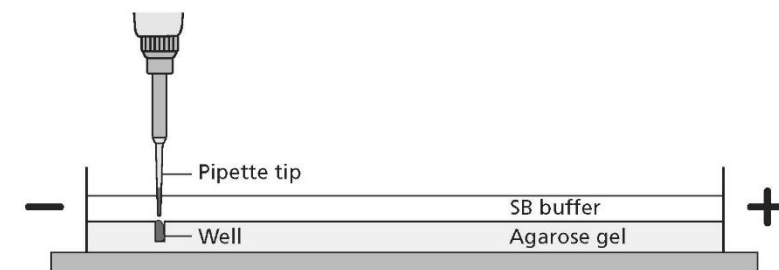

Figure 1.5 The gel electrophoresis unit
2. Check to make sure that the wells in your gel are located near the negative electrode (figure 1.5) and that the grey gel tray platform is on the base of the gel tank.